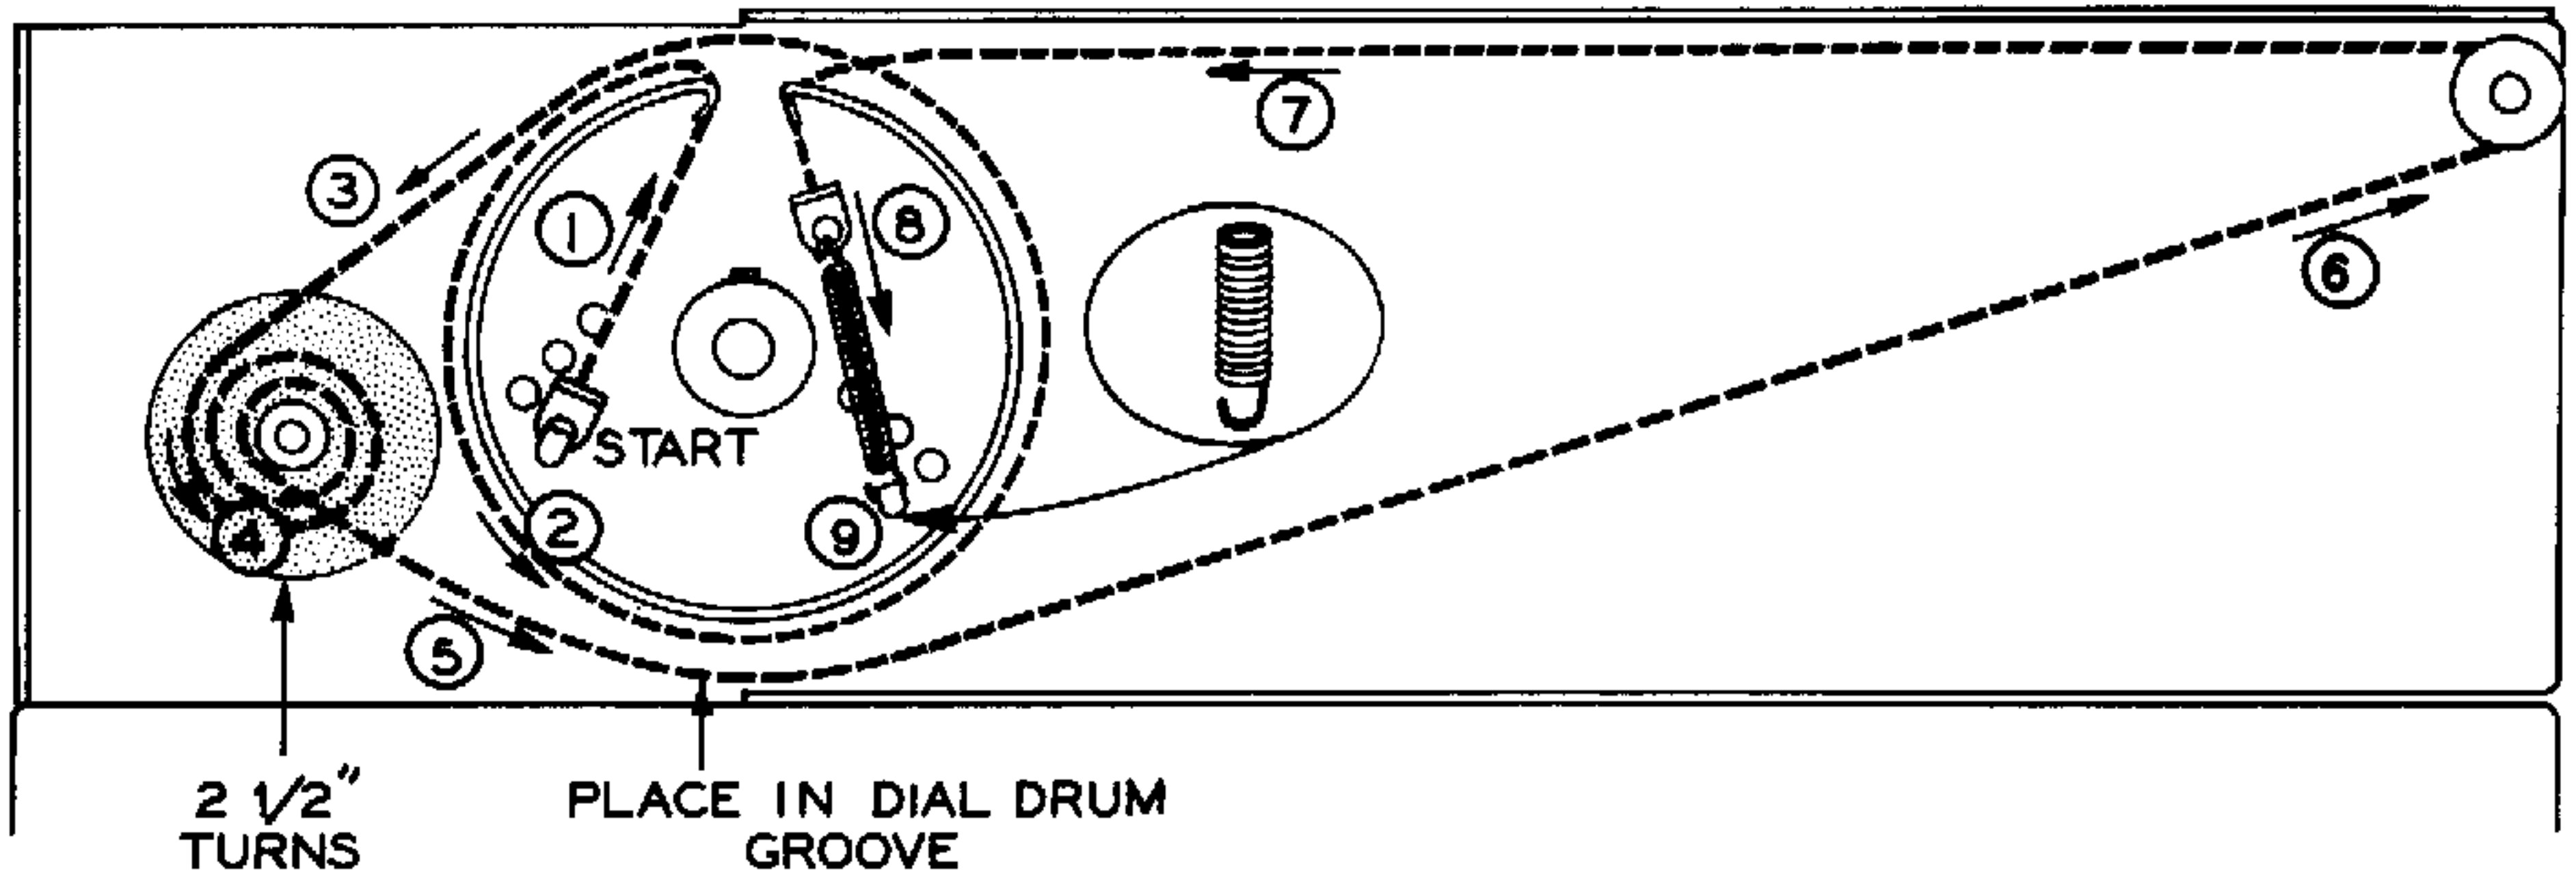

Figure 20
- () Make sure the plates of the MAIN TUNING capacitor are fully meshed and the hole in the outer edge of the dial drum is straight up, as shown in Figure 20. Now tighten the setscrew in the dial drum bushing. The dial drum should be even with the end of the MAIN TUNING capacitor shaft.
- () Locate the dial cord and the dial cord spring. Connect the dial cord spring to the eyelet at one end of the dial cord. At the other end of the dial cord spring, make a small hook as shown in the inset in Figure 20.
- () Referring to Figure 20, string the dial cord starting at 1.